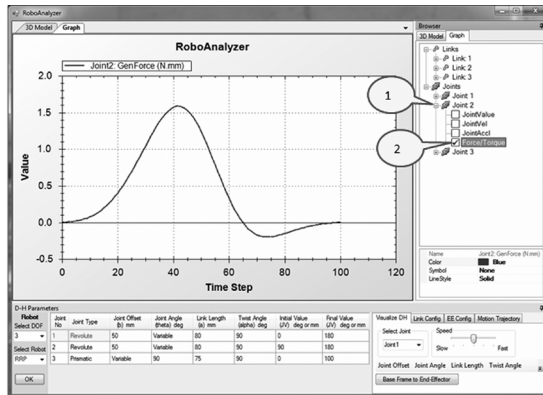

Fig. C.3 Graph plot of joint torque/force
4. Select a robot-link to enter its Center of Gravity (CG) location. It corresponds to a vector from the CG of the robot-link to the origin of the co-ordinate frame attached to that link measured in the coordinate frame attached to that link.
9. Click on **Graph** tab to view the graph, as shown in Fig. C.3.